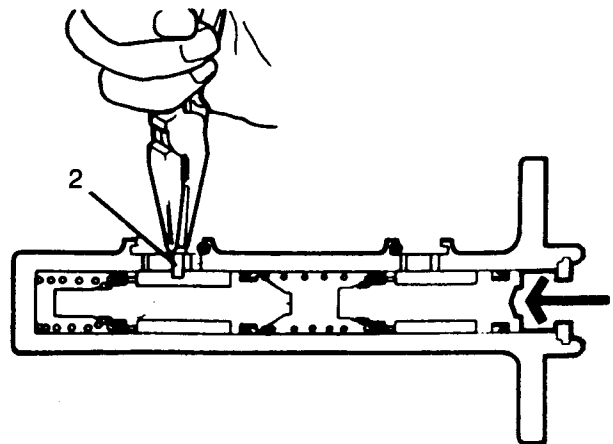

Fig K1.30
- (8) Refer to Fig K1.30. Using a clean screw driver, slowly press the plunger (arrowed) fully down the bore to enable the secondary plunger stop-pin (2) to be fitted in its correct position.
- (9) Lubricate new seals with unused brake fluid and fit one in each inlet port.
- (10) Lubricate the seals and press the fluid reservoir into position on the cylinder and secure with the retaining pins.
- (11) Refit the master cylinder (see Sub-section K1.4, Chapter 3).